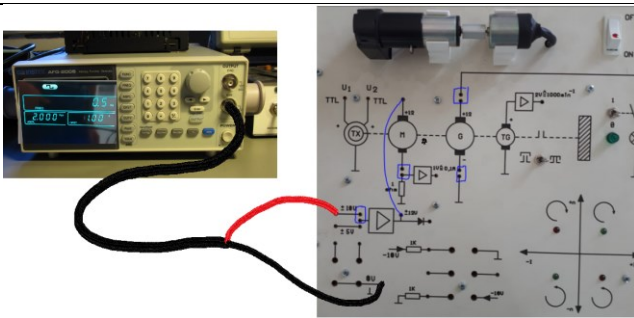

Figure 5: signal generator connection
- 5) Using the signal-generator probe's positive[red] and negative[black] part, set the connections depicted in Figure 5.